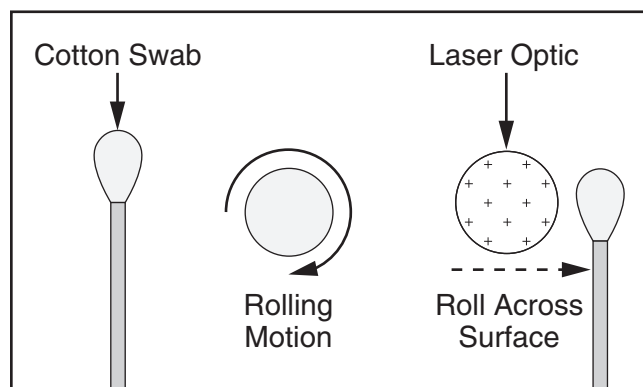

Figure 68. Rolling swab across surface.
4. With gentle rolling motion, roll swab across surface of lens/mirror to absorb any particulates stuck to surface (see **Figure 68**).